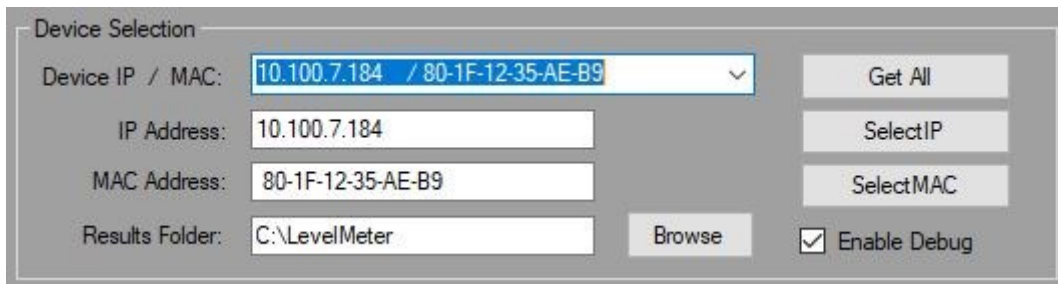
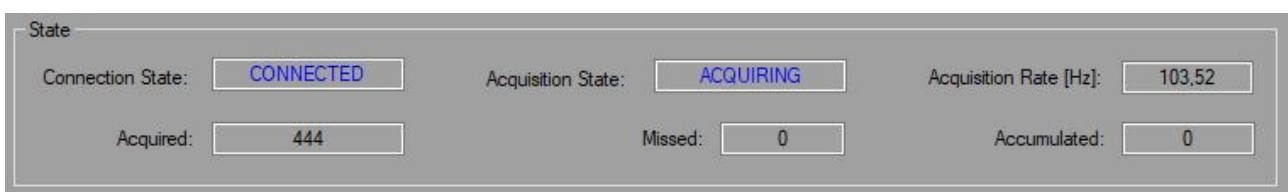
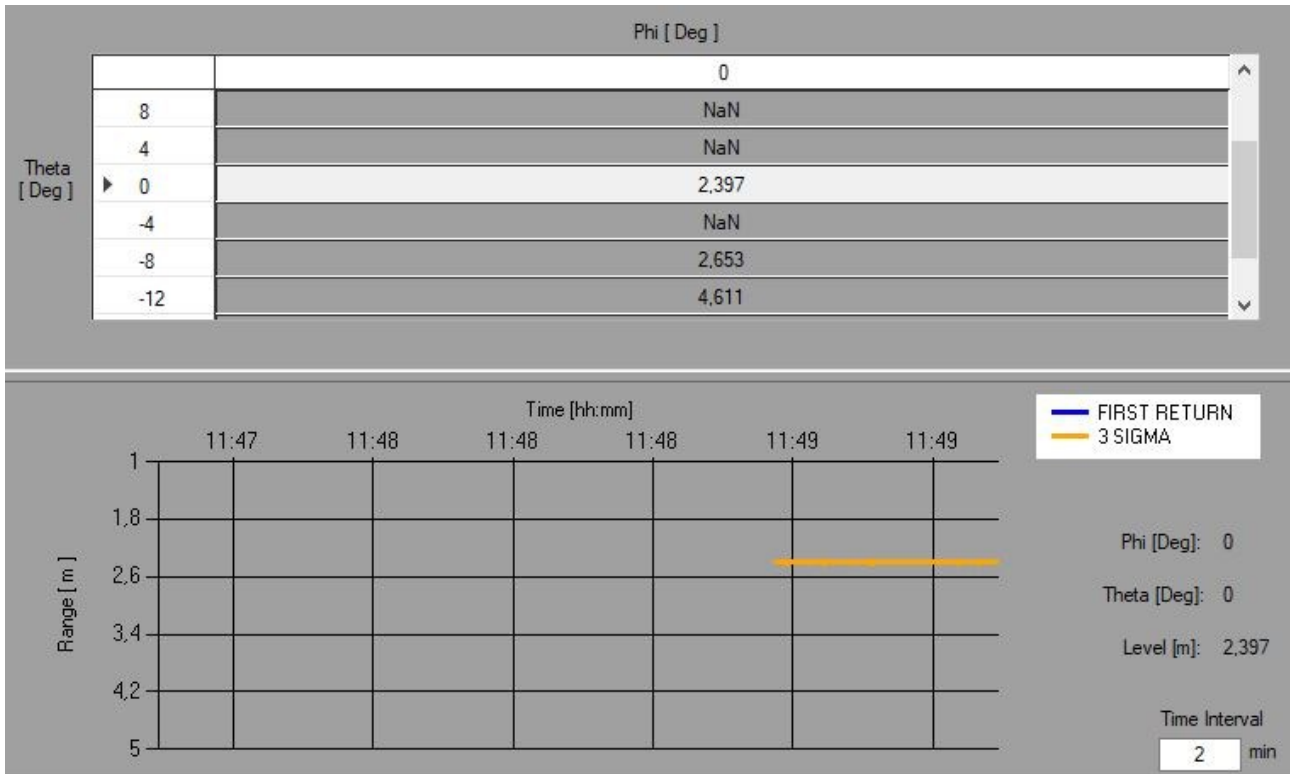

Fig.8 Device Selection Panel
Fig.14 State Panel
Fig.15 Data Visualization Panels
First thing to do to have the application working is to select a device using the panel in Fig.8.
to connect with this IP address. If this button is pressed, the Device Connection Panel is updated as in Fig.8.
- Press *Select MAC* button: in this case the Level Metering application will always work with the radar device identified by this MAC address. In case of connection break down, the application will try to reconnect with this MAC address, no matter of the IP which is currently assigned to the device. If this button is pressed, the Device Connection Panel is updated as in Fig.8.
- *TryConnect* button: by clicking this button, a cycle of period connection attempts is started. Each time the device disconnected, automatically the application will try to reconnect the system. When a connection attempt succeeds the *Connection State* of the Level Metering application (see Fig.14) becomes *CONNECTED*, elsewhere it is *DISCONNECTED*.
- *Disconnect* button: by clicking this button the periodic connection attempts are stopped and the application disconnects from the radar (the *Connection State* is forced to *DISCONNECTED* in Fig.14).
By clicking the *Configure* button, the acquisition is configured and the *Acquisition State* of the application goes from *READY* to *CONFIGURED* (see Fig.14). The acquisition configuration can be set as many time as required, provided that the system is not already acquiring (in such a case, stop the acquisition to update the configuration).
- *Level Type*: this drop-down menu allows to select the type of returned level measure (both saved in the results file and displayed in the data visualization panel, Fig.15). It is possible to select FIRST RETURN (the level value corresponding to the 90% statistic percentile, computed from the maximum range distance), PEAK (the level value corresponding to the statistics mode) and MEAN (the level value corresponding to the statistics mean).
- *Threshold*: this is a constant target level value, drawn in Fig.15, to have a baseline against which to compare the real-time measured value.
Click the button *Start Acquisition* in the *Acquisition* Panel to start data acquisition and processing. This button can be clicked if and only if the *Acquisition State* of the application (see Fig.14) is *CONFIGURED*. If the starting operation succeeds, this state becomes *ACQUIRING* and new data and results will be saved in the folder set in the *Results Folder* text box (see Fig.8) and displayed in the *Data Visualization* panel (see Fig.15).
By clicking the *Stop Acquisition* button, the radar acquisition is stopped and the *Acquisition State* of the application (Fig.14) goes back to *CONFIGURED*.
When the *Acquisition State* of the application is in *ACQUIRING*, the measure results are displayed in the panel of Fig.15. In the upper panel, the grid of measure is displayed: for each point of the (Phi, Theta)-grid the instantaneous measure of distance is reported.